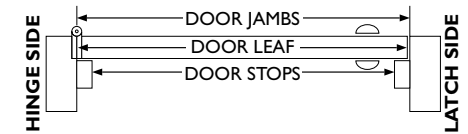

FIG.3
STEP 3 Position threshold on door sill to suit application, e.g. **(FIG.3)**.